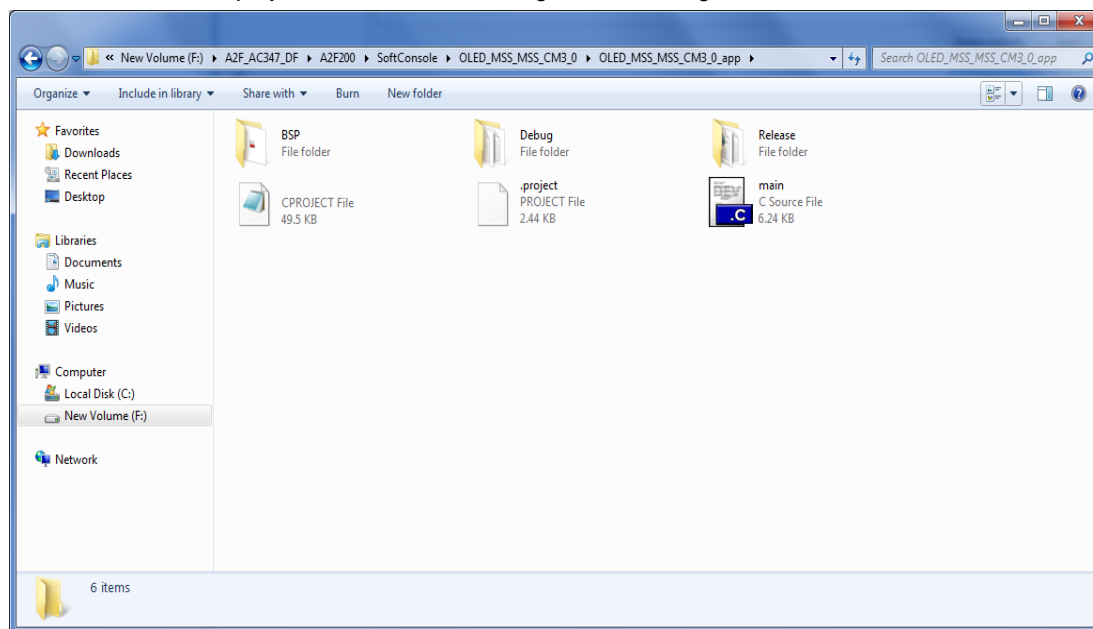
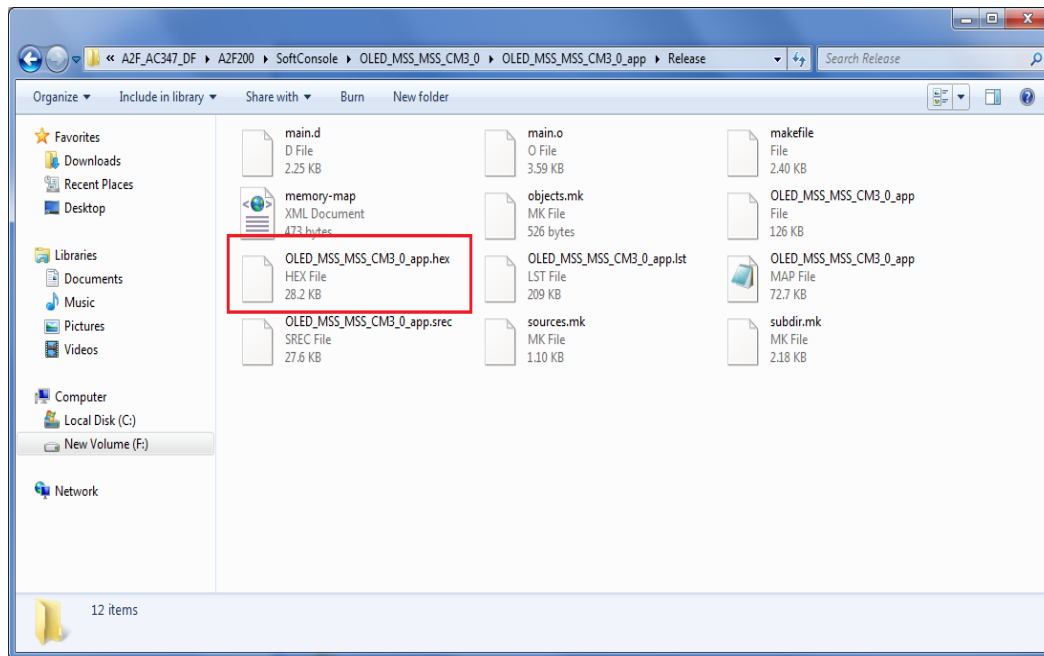

Figure 4 · Release Folder Location in Project Folder
Figure 5 · Hex File Location in Release Folder
6. Build the project (**Project > Build All**) and observe that '.hex' file is generated in 'Release' folder created in project folder as shown in Figure 4 · and Figure 5 ·